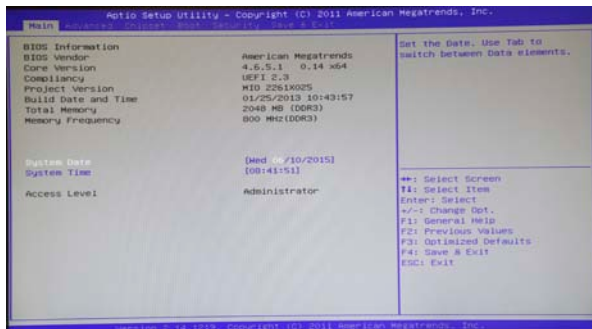

Fig. 36 View on 1 system recovery
- If you see the following start screen, see Fig. 36, please press the `DEL` button.
Now you should see the following screen, see Fig. 36.